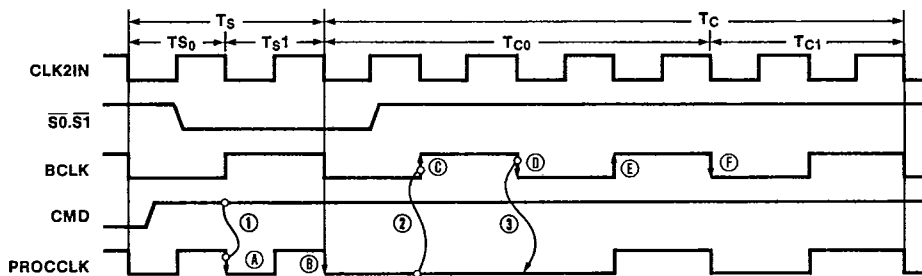

Figure 1.3 Sequence Diagram for High to Low Frequency Transition
Figures 1.3 and 1.4 illustrate the sequence of events that switch PROCCLK from high to low speed and from low to high speed, upon receiving a request from the configuration register. In Figure 1.3, the falling edge (A) of PROCCLK is used to latch the command inactive condition (1). On the falling edge (B), CLK2IN is disabled on the PROCCLK line. This ensures that clock switching will occur when PROCCLK is low. Once CLK2IN has been disabled, the first rising edge (C) of BCLK latches this condition as denoted by sequence (2). BCLK then enables itself on the PROCCLK line on the falling edge (D) as